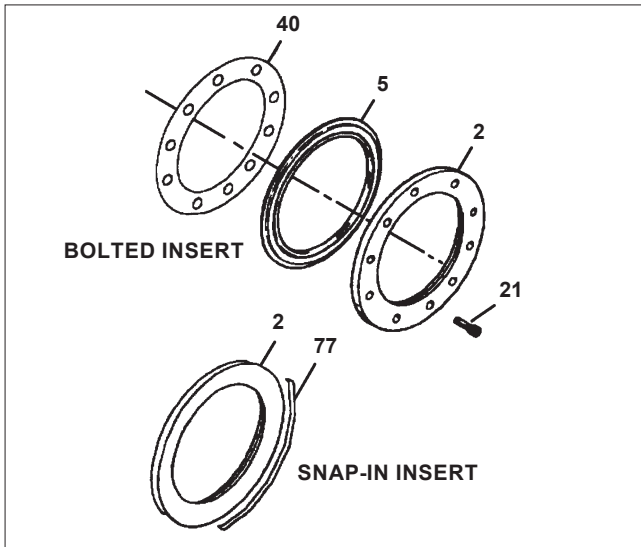

Figure 8.
- B. **Snap-In Insert (See Figure 8):**
Place the insert spring (77) into the groove in the body, opposite the positive stop (**See Figure 8**). Lightly tap one end of the spring into the body groove. Be sure the spring is positioned snugly into the groove.
body, opposite the positive stop (See Figure 8). The tips of the spring should be toward the insert side of the valve. Lightly tap one end of the spring into the body groove. Be sure the spring is positioned snugly into the groove. Lightly tap the other end of the spring into the groove. Make sure the tips of the spring are embedded into the body groove to prevent spring movement. With the seat assembled into the insert, and the disc slightly open, install the assembly into the body, such that it is angled into the body to engage the retaining spring. Once the retaining spring is engaged, "pop" the opposite side of the insert into the body by lightly tapping the insert with a block of wood and a hammer.